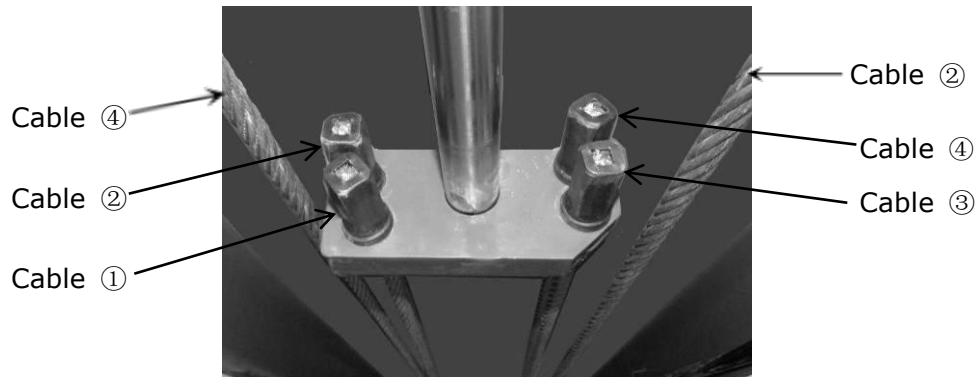

Fig. 33
3. Illustration for platform cables (See Fig. 33, 34, 35).